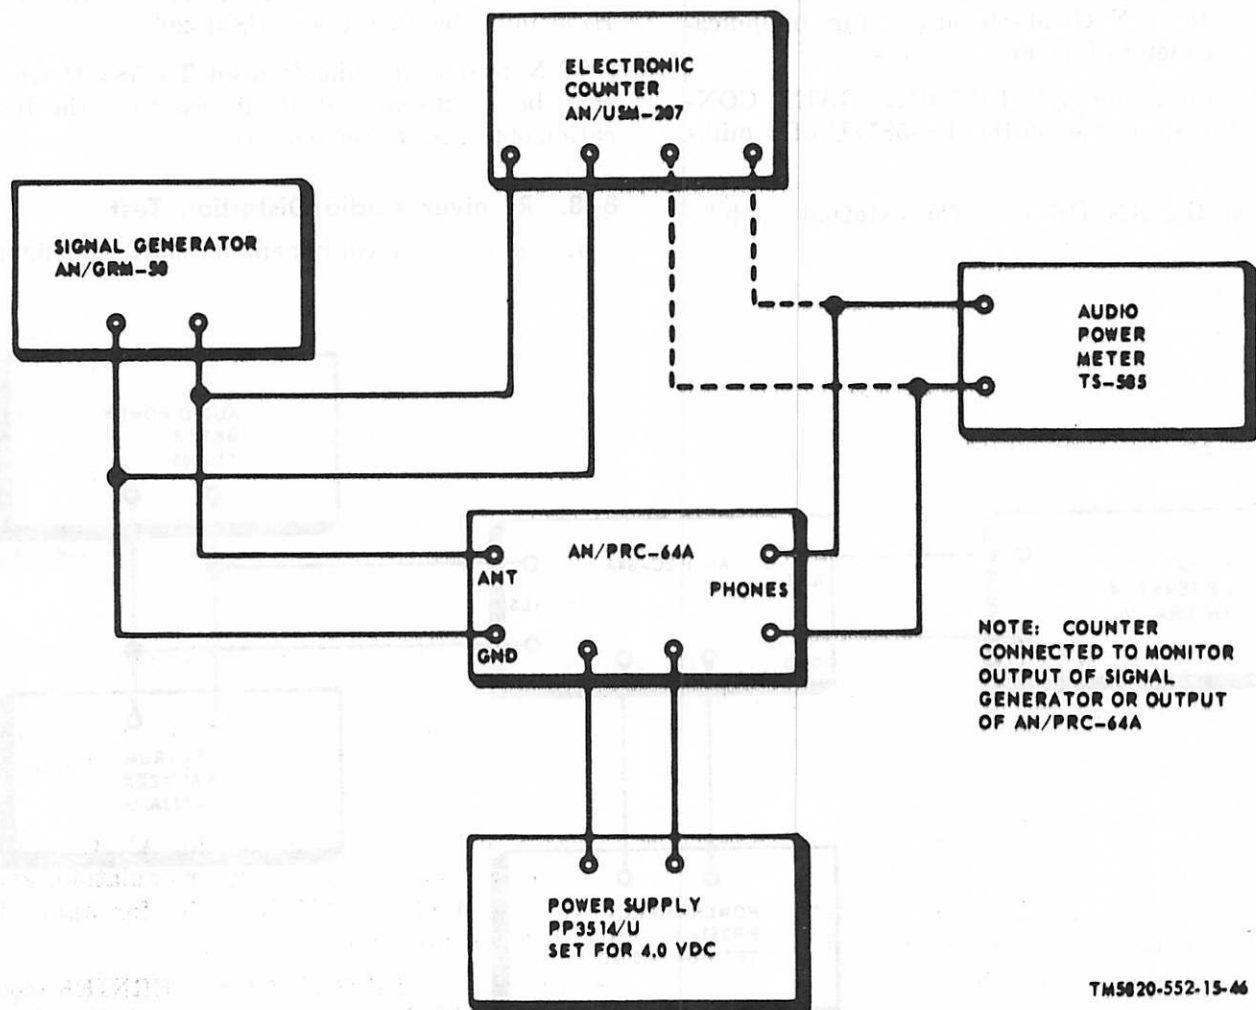

Figure 8-3. Receiver audio response test, test setup.
a. Connect the test equipment as shown in figure 8-3 and position the Radio Set AN/PRC-64A controls the same as in paragraph 8-5a(3).